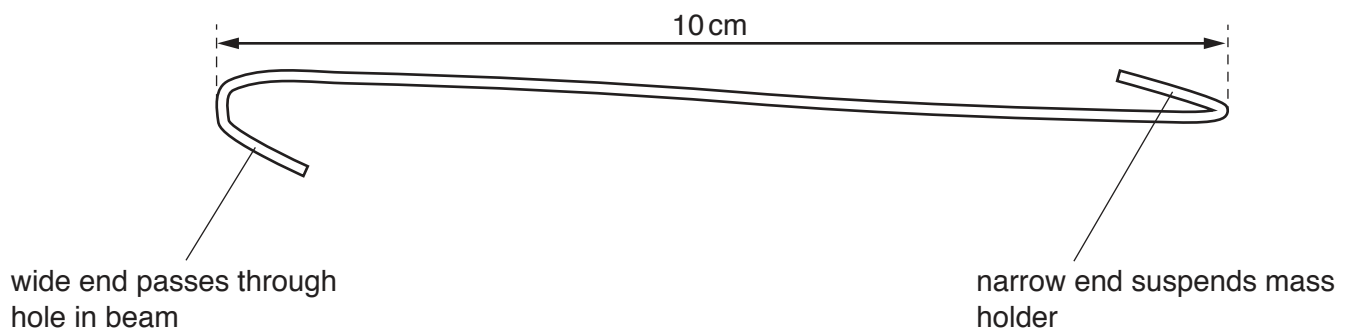

Fig. 3.5
4. Candidates will use the wire hook to suspend the 200 g mass from the L-shaped beam. A suitable hook may be made using a large steel paper clip, as shown in Fig. 3.5. It must be possible to suspend a 200 g mass from one end of the wire hook.